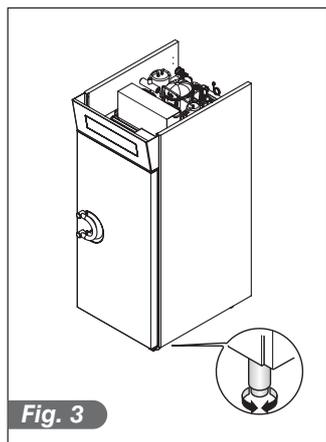

Fig. 3
- Use the adjustment feet to level the appliance. Do not use the forklift truck to straighten the machine as it could damage the basin guides on the bottom of the machine (Fig.3).